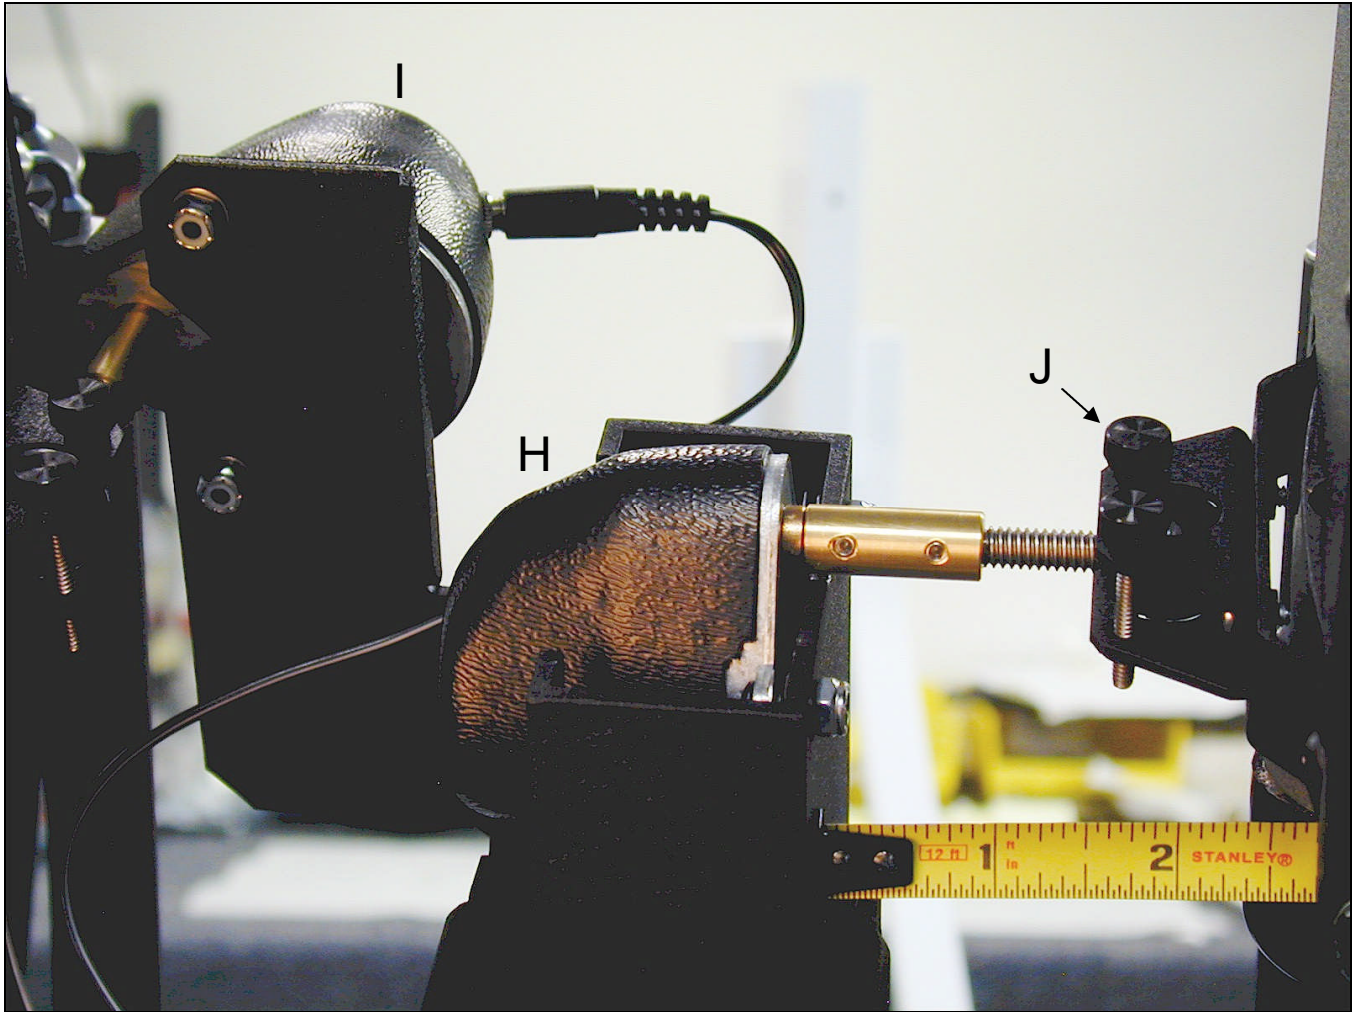

Figure 6
There are two motors that move the optical tubes to converge the images (Figure 6). As seen from the guiding handlebar side of the telescope (from which all references will be made) the Left/Right (L/R) motor (H) is on the right and the Up/Down (U/D) motor (I) is on the left. These motors move the optical tubes, either to the left and right (L/R) or up and down (U/D), to converge the images in the eyepiece.